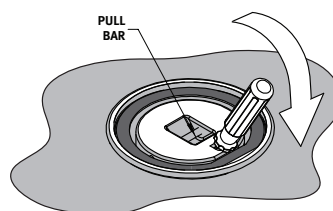

Figure 6a
- Pivot the screwdriver as shown in **Figure 6a**. This action pushes the Pin away from the side walls of the hole and disengages the bollard.